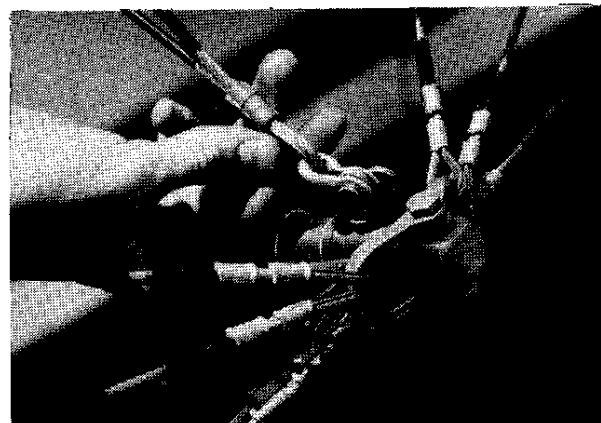

Figure 2.28
- 34.** Attach stabilizer upper wires to eyebolt on king-post top fitting using 3/16" shackle, clevis pin, and safety ring. **Figure 2.28**